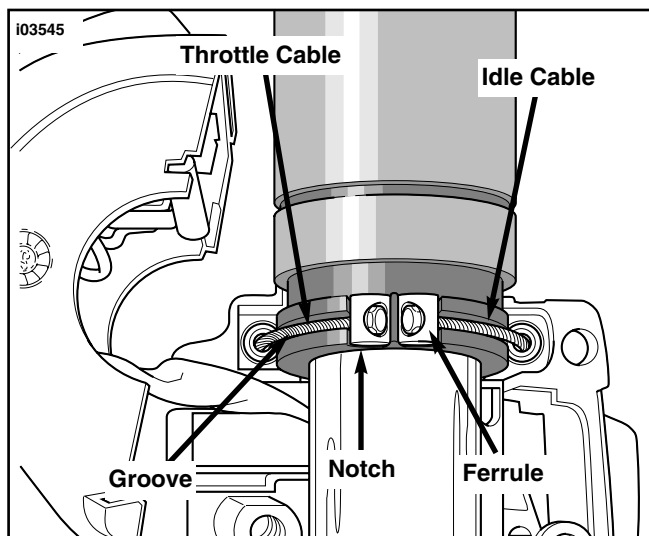

Figure 5. Remove Throttle and Idle Control Cables
- See Figure 5. Remove the brass ferrules from the notches on the inboard side of the throttle control grip, then remove ferrules from the cable end fittings. Save ferrules for reinstallation.
24. Refer to Figure 5. Position the new lower switch housing beneath the throttle control grip. Install the brass ferrules onto the cables so that the end fittings seat in the ferrule recess. Seat the ferrules in their respective notches on the throttle control grip. Verify that the cables are captured in the grooves molded into the grip.